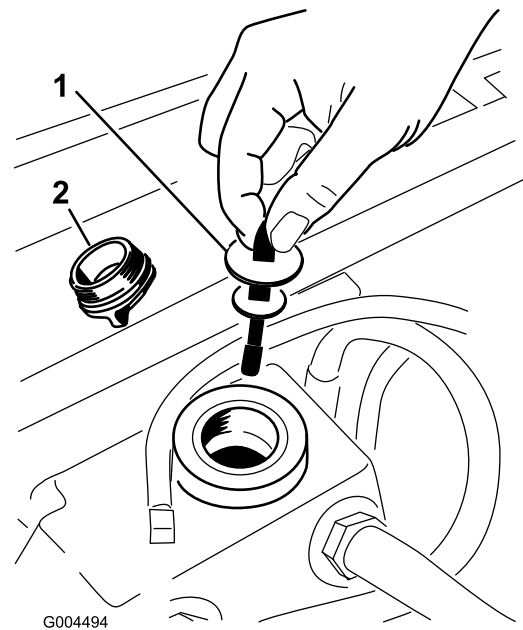

Figure 90
5. Remove the hydraulic fill cap from the filler neck (Figure 90).
6. Remove the dipstick and wipe it with a clean rag (Figure 90).
7. Place the dipstick into the filler neck; then remove it and check the fluid level (Figure 90).